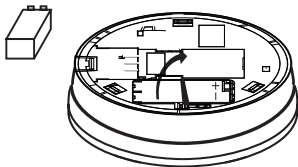

Figure 5
- BESMOKEY will not function without a properly installed battery. They are equipped with a battery lockout feature which prevents the battery door from closing if a battery is not installed correctly (See Figure 5).